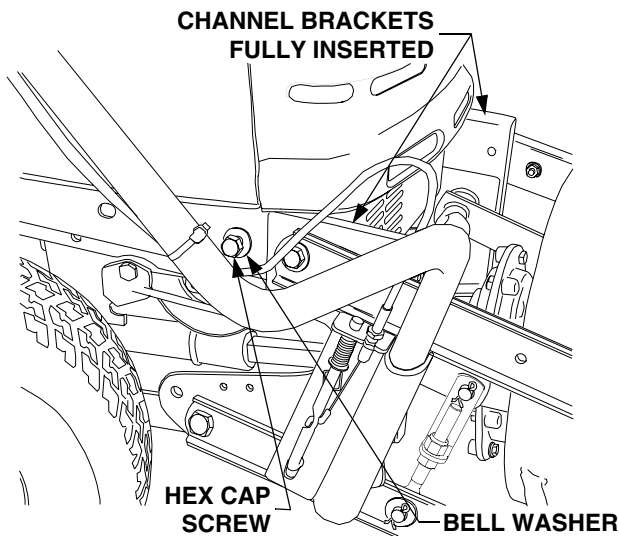

Figure 18
5. While manipulating the lift handle to keep the channel brackets parallel to the tractor frame, lift upward on the front lift shaft and slide the snow thrower assembly rearward until the channel brackets are fully inserted into the frame channels. Secure the assembly to both sides of the frame using the hex cap screws (9, Fig.2) and bell washers (15, Fig.2). See Figure 18.
7. Remove the hex cap screws and bell washers that secure the snow thrower channel brackets in both of the tractor frame channels (Refer to Figure 18).